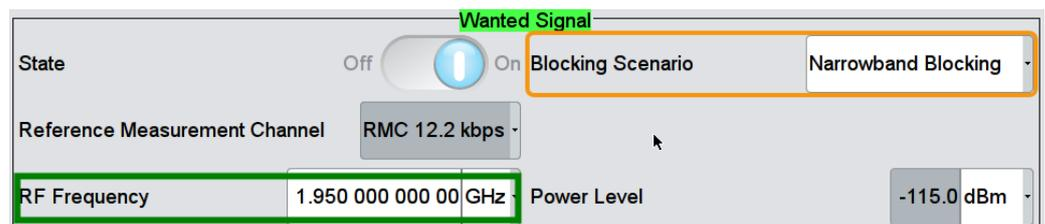

Fig. 3-41: Select Narrowband Blocking. Set RF Frequency
2. Select **Narrowband BS blocking** as **Blocking Scenario** in the "Wanted Signal" menu. (Fig. 3-41)
3. Set **RF frequency** of the wanted signal. (Fig. 3-41)
4. **Power level** for the wanted signal is set automatically based on the power class and blocking scenario. (Fig. 3-41)